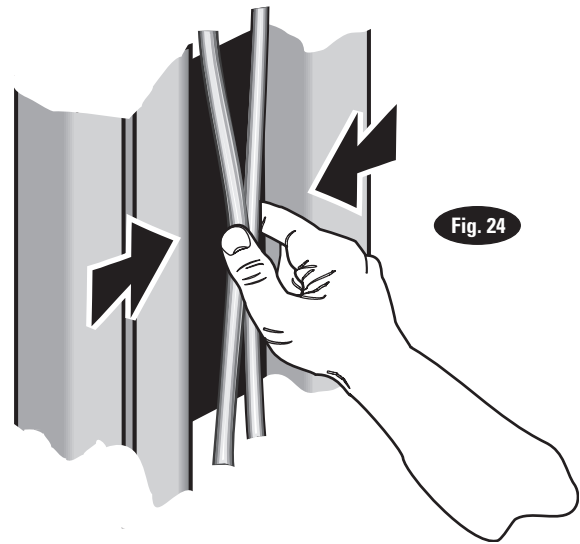

Fig. 24
22. Equalizer Cable Adjustment: Raise lift to check equalizer cable tension. Below carriage, grasp adjacent cables between thumb and forefinger, with about 15 lbs. effort you should just pull the cables together, Fig. 24. Adjust at upper tie-offs Fig. 15.